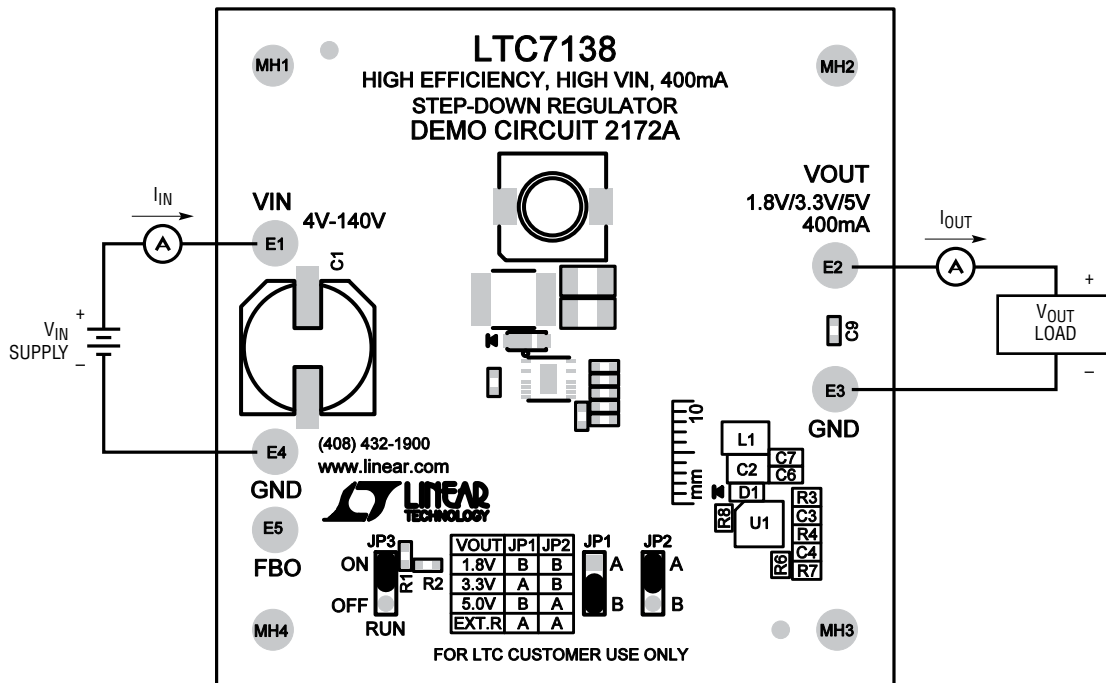

Figure 1. Proper Measurement Equipment Setup
Demonstration circuit 2172A is easy to set up to evaluate the performance of the LTC7138. Please refer to Figure 1 for proper measurement equipment setup and follow the procedure below.
- 1) With power off, connect the input supply, load and meters as shown in Figure 1. Preset the load to 0A and  $V_{IN}$  supply to 0V.